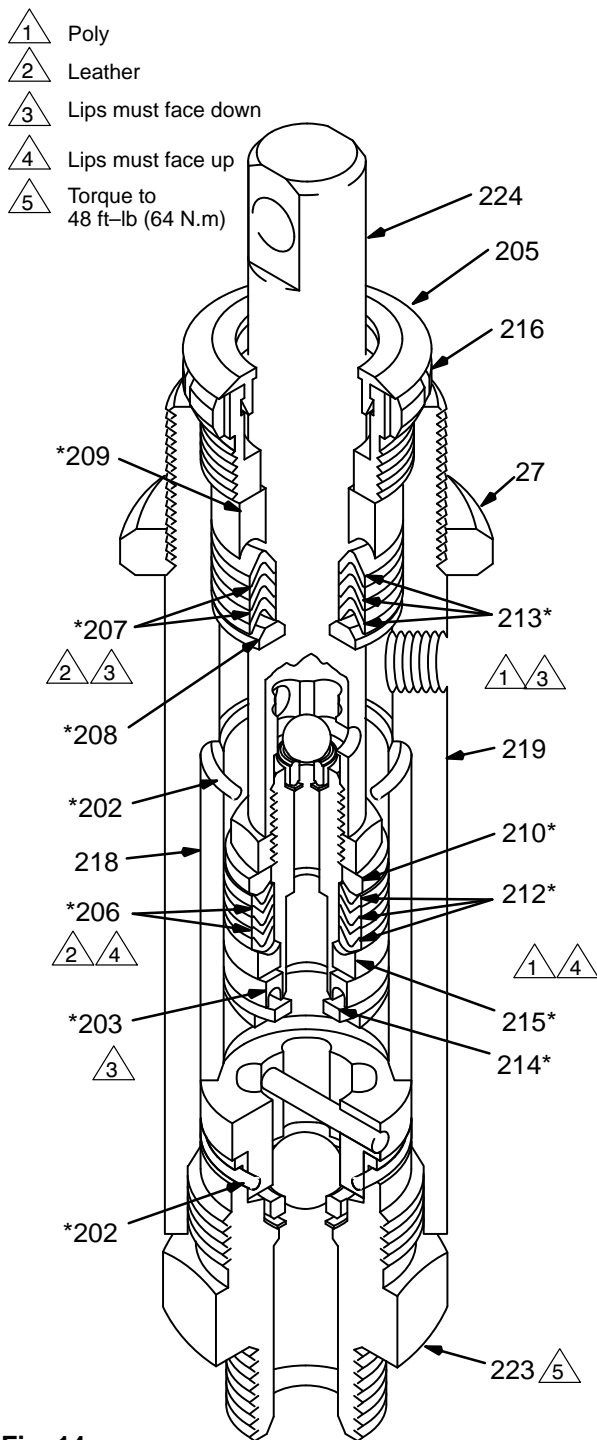

Fig. 14
**NOTE:** Alternate leather and plastic v-packings and be sure their lips as face the direction shown in Fig. 14. Incorrect installation damages the packings and results in pump leakage.
1. Check the piston rod (224) and the inside of the sleeve (218) for scoring or scratches. If these parts are damaged, new packings will not seal properly.
2. Stack the piston packings onto the piston (222) as shown in Fig. 14.
3. Tighten the piston nut (211) against the piston to 10.5 in-lb (1.2 N.m.) to seat the packings, and then back off and finger tighten.